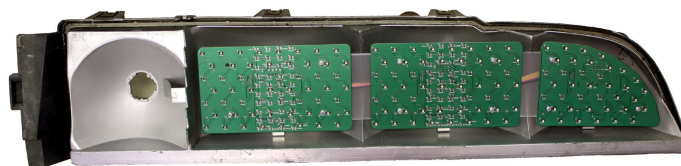
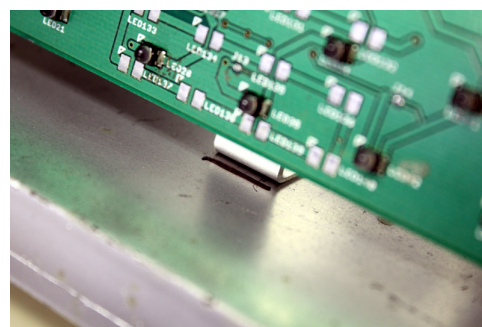

Figure 1
Figure 2
- 2.1. Place the appropriate LED panel assembly into the back housing. (See Figure 1) While positioning the LED panels within the center of each light chamber, as far back into the housing as possible and the aluminum mounting tabs flush against the lower housing surface, mark a line on the back housing just in front of each mounting tabs to indicate their position. (See Figure 2) Then remove the LED panel assembly.